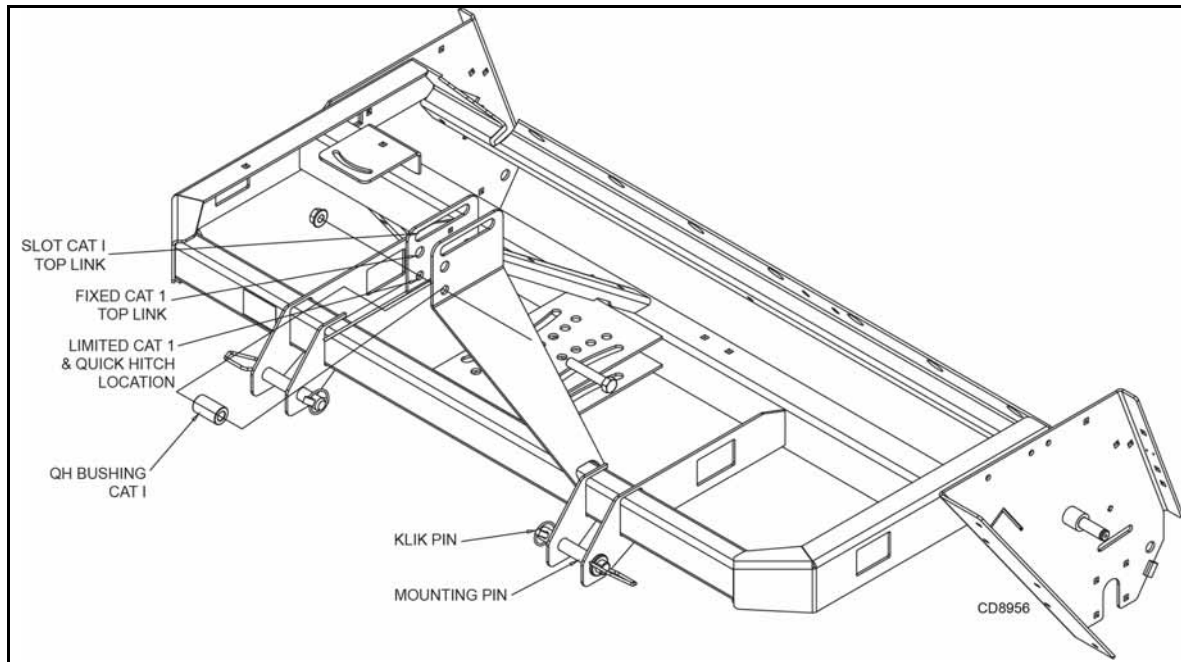

Figure 2. Seeder Hitch Positions
1. Attach the tractor's lower lift arms to the seeder and secure with mounting pins and klik pins. See Figure 2.
For beginning usage, the float position is recommended. See Figure 2. To enable the seeder to follow the contours of uneven ground, install the tractor's top link in the long slot in the top of the mast plates. For proper float (up and down) the top link pin should be centered in the slot (recommended for beginners).
For controlled depth of tillage, use the fixed top link position in the mast plates. See Figure 2.